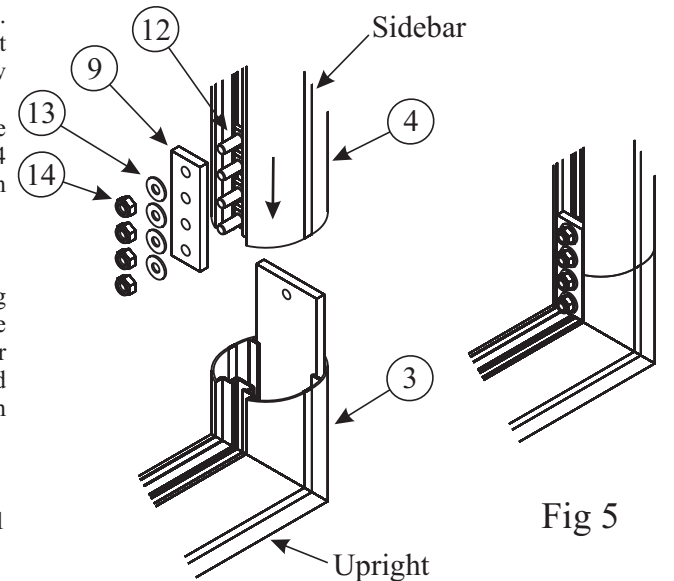

Fig 5
4 Sidebar - Insert 4 square head bolts into the sidebar and fit the Joint Plate (9) with washers (13) and nuts (14) (hand tighten 3 nuts and fasten the last enough to stop the plate sliding down the section when the sidebar is lifted into position). Lift the side bar into a vertical position and slide onto the upright. Loosen the joint plate and slide into position then fasten as shown in Fig. 5. At this point do not secure the net supports to the sidebars. The goal will now resemble Fig. 2.2.